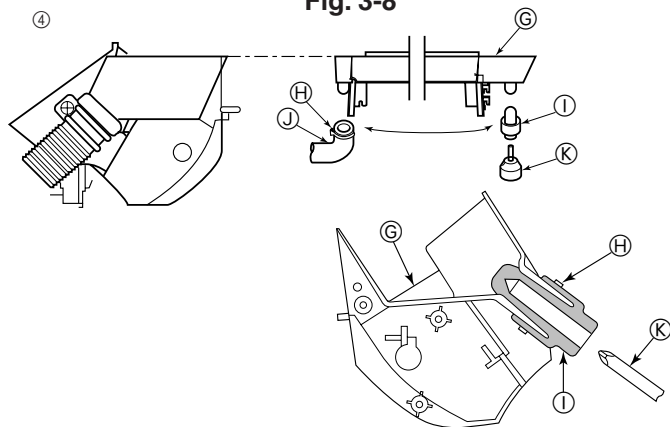

Fig. 3-9
- ④ The drain hose can be connected at two different positions. Use the most convenient position and, if necessary, exchange the position of the drain pan, rubber plug and the drain hose. (Fig. 3-9)